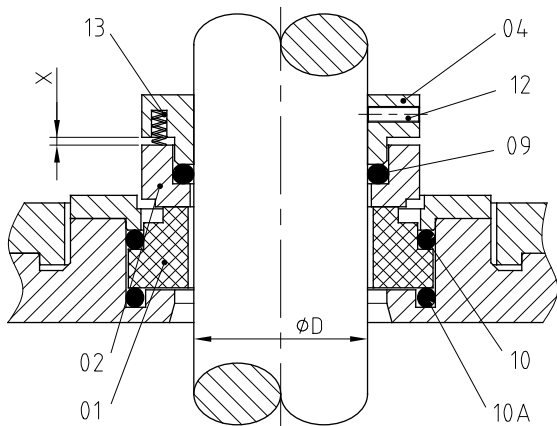

Figure 8.1 Dimensions EDV mechanical seal.
- Remove the lantern protectors (47) by removing the screws (50).
- Take out the stud (12) on the rotating part of the mechanical seal (08) (See Figure 8.1 or 8.2)
- Remove screw (50B) and washer (17) which fix the shaft (05) to the gear motor (93).
- With the help of slings, carefully lift the gear motor (93) in an upright position in order to separate it from the shaft (05), removing first the hexagonal screws (52), washers (53) and nuts (54), securing it to the lantern (04). Make sure not to knock or damage the mechanical seal while carrying out this procedure.
- Pull out the key (61) from the shaft (05).
- Remove the rotating part of the mechanical seal (08) to the shaft (05).
- Remove the lantern assembly (04) from the shaft (05) from the top side.
- Separate the lantern (04), to the base plate (42), by removing the screws (50A).
- Remove the seal cover (09) and seal counter cover (11) by removing the hexagonal screws (52C) and washers (53C) that secure it to the base plate (42).
- Extract the stationary part of the mechanical seal (08) from the base plate (42), taking care not to damage it.
- Extract the O-ring (80) from the seal counter cover (09), taking care not to damage it.
- Place the shaft (05) in an upright position in a suitable location.
- Fit the O-ring (80) in her place to the seal cover (09).
- Fit the stationary part of the mechanical seal (08) on the seal cover (09) secure it seal counter cover (11) on the base plate (42), fix it with the hexagonal screws (52C) and the washers (53C).
- Now mount the lantern (04) on the base plate assembly (42) and secure it using the screws (50A).
- Install this assembly on the shaft (05). Make sure not to knock or damage the seat of the mechanical seal (08) while carrying out this procedure.
- Wet the shaft (05) area where the rotating part of the mechanical seal (08) will be fitted with glycerin or liquid soap compatible with the seal material.
- Then mount the rotating part of the mechanical seal (08) on the shaft (05), pushing it until the seal face makes contact with the stationary part of the seal. Do not fully tighten the stud (12) yet. \(See Figure 8.1 or 8.2\)
- Place the key (61) on the shaft (05).
- With the help of slings, mount the gear motor (93) in an upright position on the lantern (04) and secure it with the screw (52), washers (53) and nuts (54), then attach and secure the shaft (05) to the gear motor (93) using the screw (50B) and washer (17).
- Check the mounting position of the rotating part of the seal (08) at 3 points with a feeler gauge and tighten the stud (12) in accordance with the assembly specifications. \(See Figure 8.1 or 8.2\)
- Install the lantern protectors (47) to the lantern (04), using the screws (50) for fix it.